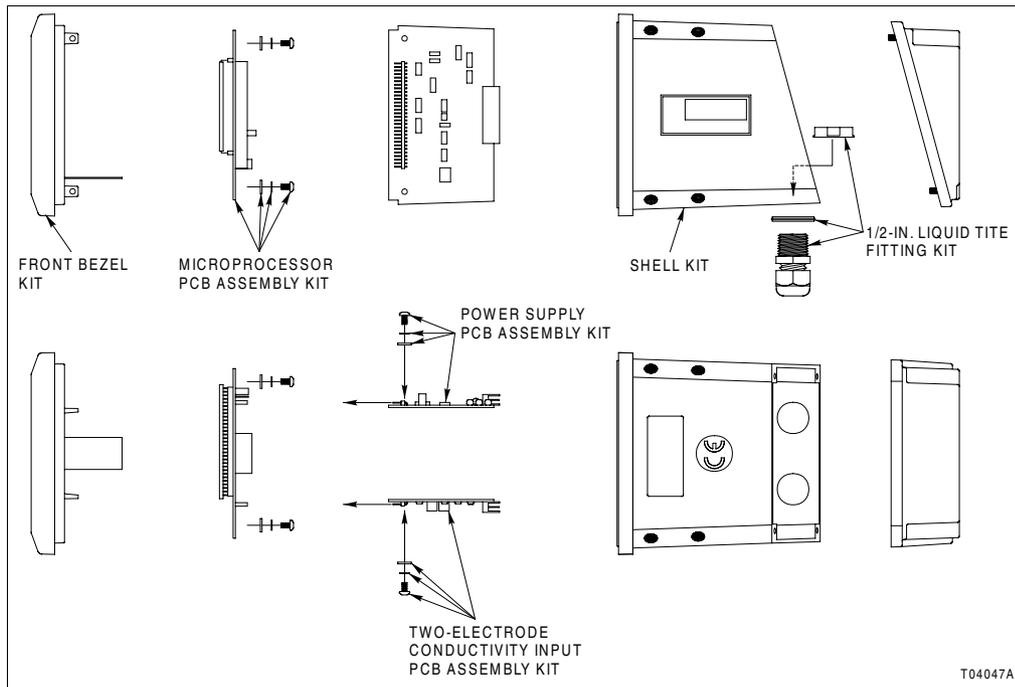

Figure PR32-1. Microprocessor PCB Replacement
2. Use the Phillips screwdriver to remove the two screws that secure the microprocessor PCB to the front bezel (Fig. PR32-1).